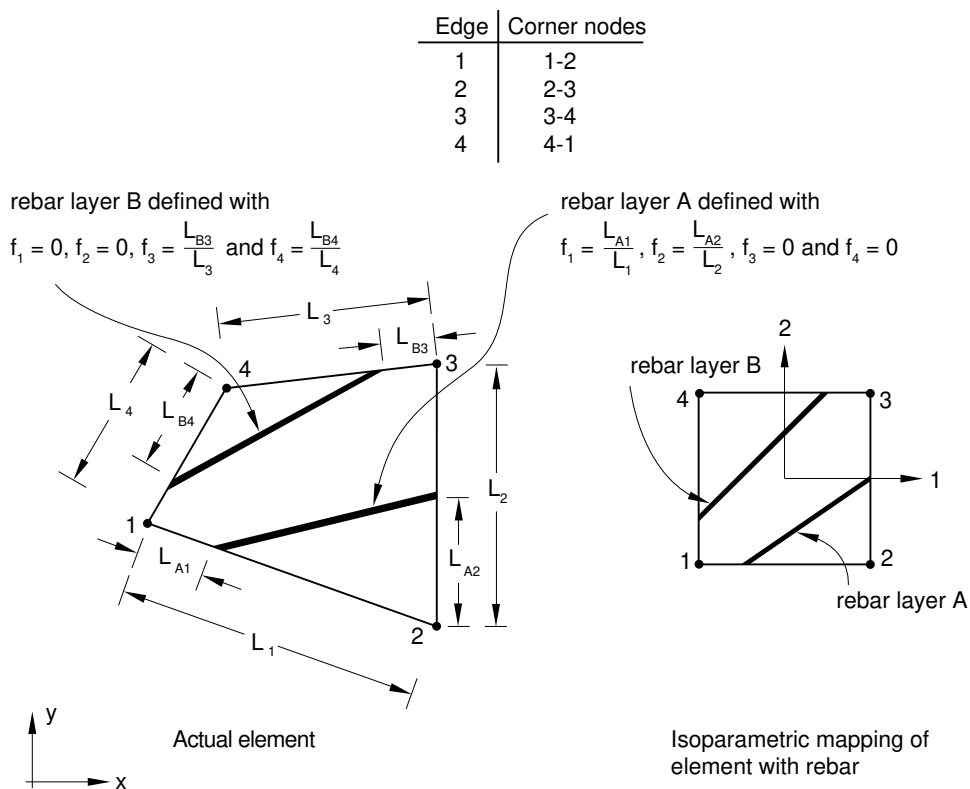

Figure 5: Rebar layer definition in solid elements with GEOMETRY=SKEW.
1. Fractional distance along edge 1, f_1 (see Figure 5).